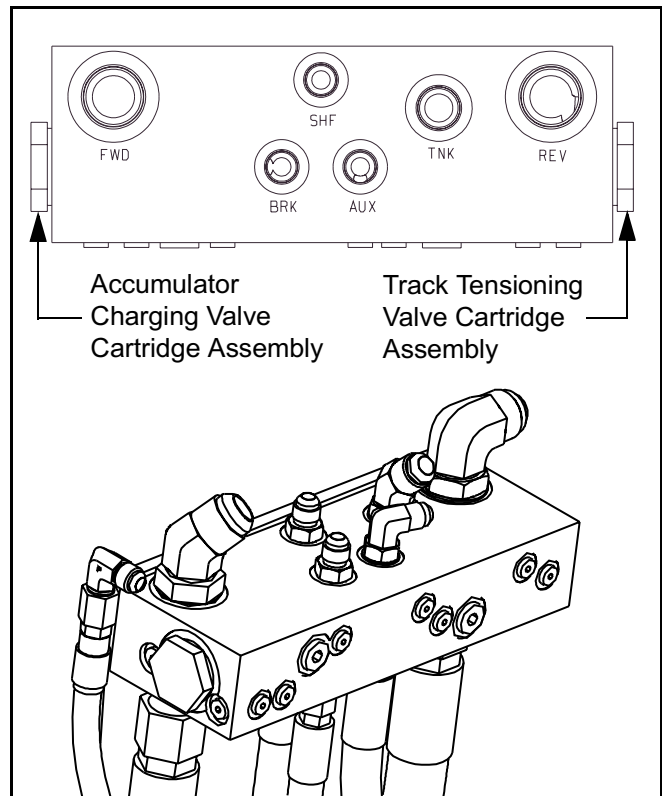

Figure 5 - 33 Track Take-up Valve
- 13) If you cannot feel it pulse, remove the accumulator charging cartridge assembly (Figure 5 - 33), inspect, clean, and re-install in valve body.